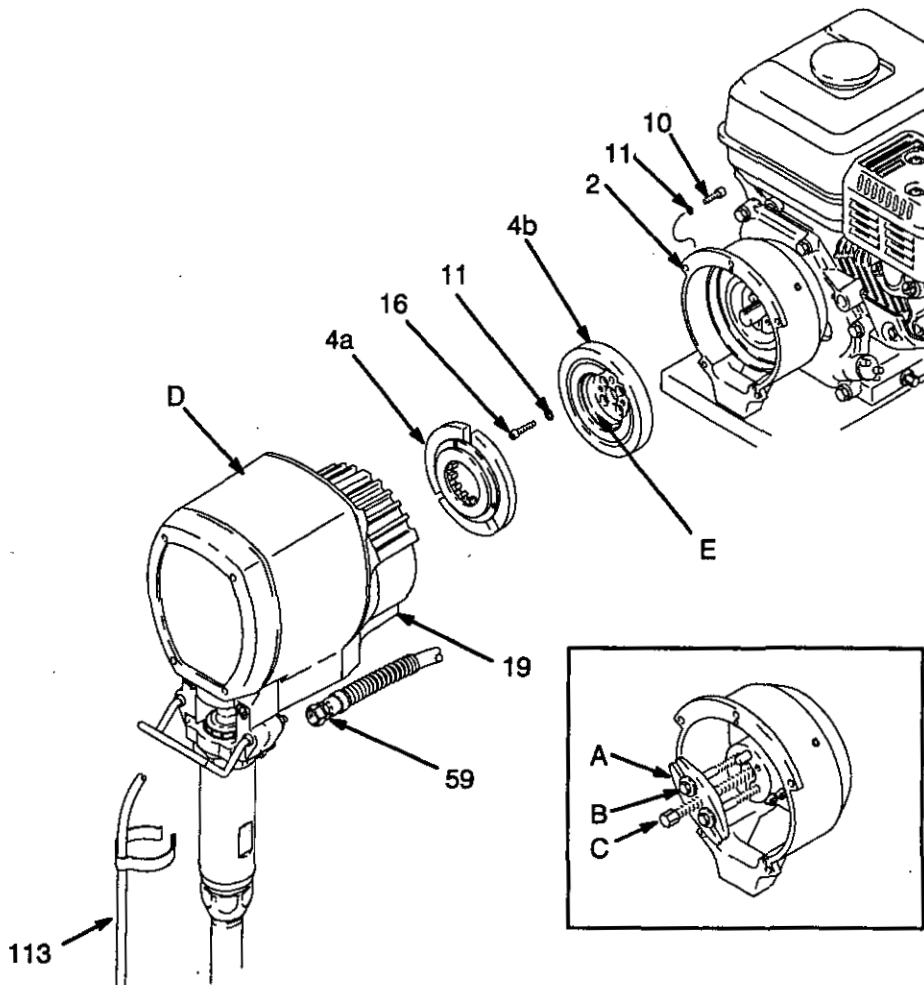

Fig. 13
NOTE: Refer to Fig. 13 for this procedure.
2. Disconnect the hose (59) from the displacement pump. Remove the spring clips and drain hose (113).
3. Remove the two bottom screws (10) and lockwashers (11) first, then remove the two side screws (10) and lockwashers (11), and last remove the top screw (10) and lockwasher (11).
4. Tap lightly on the back of the bearing housing (21) with a plastic mallet to loosen the assembly (D) from the clutch housing. Pull the assembly away.
- a. Remove the four socket head capscrews (16) and lockwashers (11). Install two of the screws in the threaded holes (E) in the rotor. Alternately tighten the screws until the rotor comes off. See Fig. 13.
- b. You can use a standard steering wheel puller (A). However, two 1/4-22- x 3 or 4 in. long screws (B) are also needed. Replace the short screws of the steering wheel puller with the longer screws (B). Turn the screws (B) into the threaded holes (E) of the rotor (4b). Tighten the cap screw (C) of the tool until the rotor comes off. See the Detail in Fig. 13.